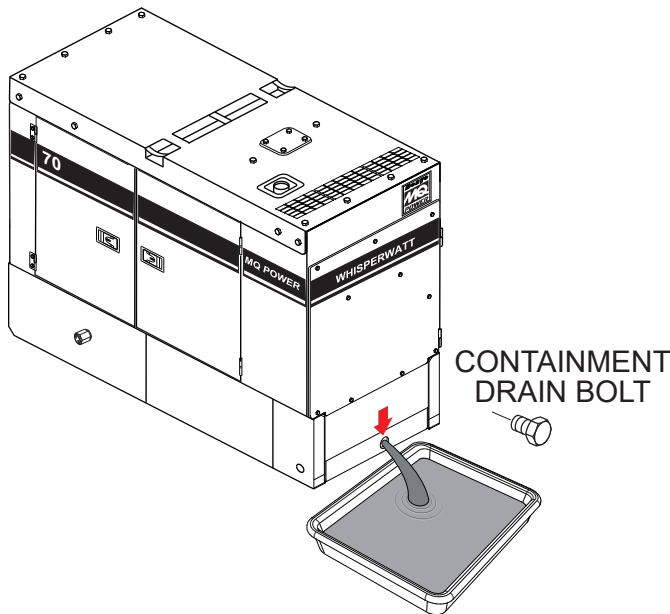

Figure 69. Draining The Containment Tank
2. If the tank becomes full with fluids, remove the drain bolt (Figure 69), then allow the fluids to drain into a suitable container.